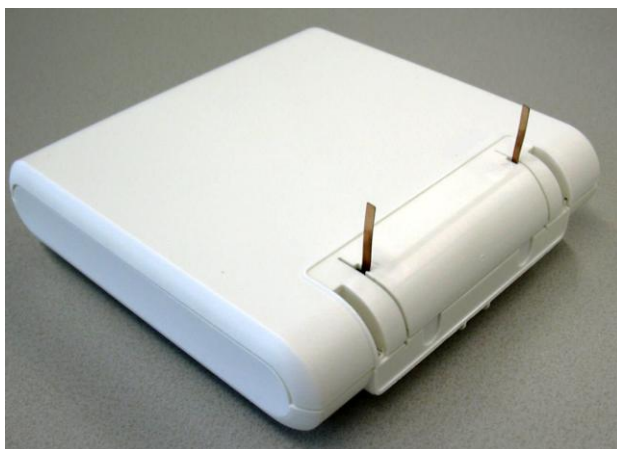

Figure 6. Antennas locked into Cover.
5. After the antennas are put in the vertical position, close the AP400 cabinet again. In other words, put the AP400 cover back into position and secure the screws at the rear side of the cabinet. See Figure 6. Antennas locked into Cover.